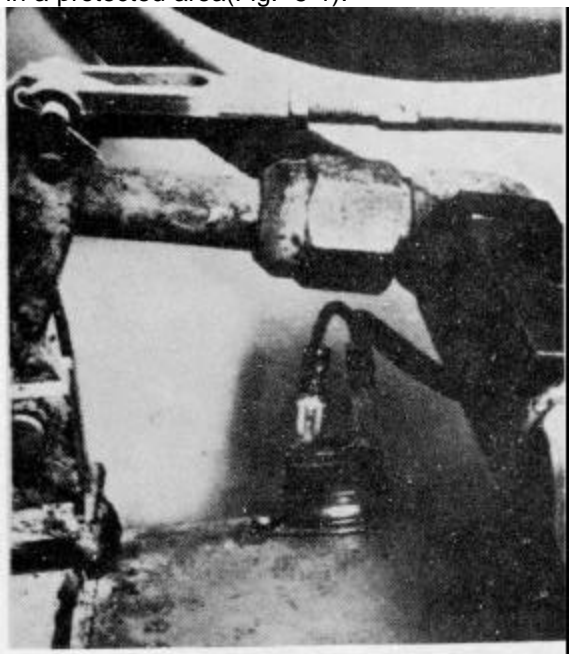

Figure 5-1
4. Remove the two 6-32 x 1/4 inch round head screws and lockwashers that attach the thermostat to the traction motor frame. Place the thermal switch to one side in a protected area(Fig. 5-1).